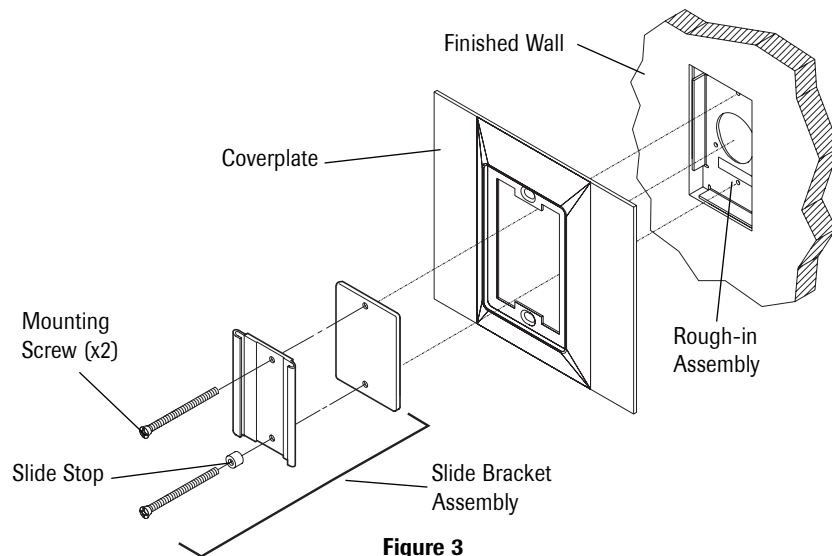

Figure 3
2. Orient the bracket assembly over the coverplate with the slide stop located at the bottom of the assembly and fit these two components over the rough-in assembly (Figure 3).